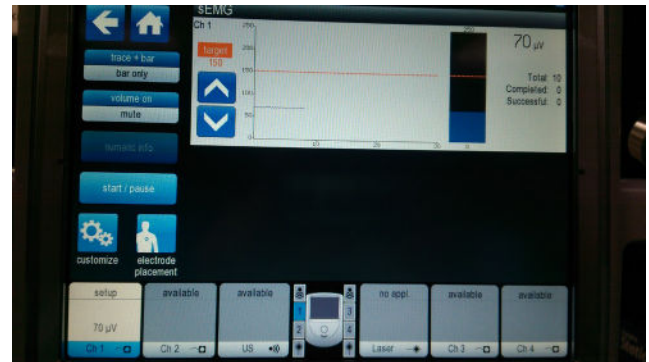

FIGURE 8
9. View the System sEMG Screen. Channel 1 should read between 604 and 738. **See Figure 8.**